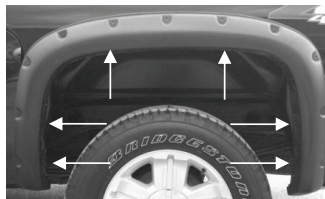

Figure 11
7. Install the flare with the supplied screws while applying moderate pressure to the outside surface of the flare. Figure 11